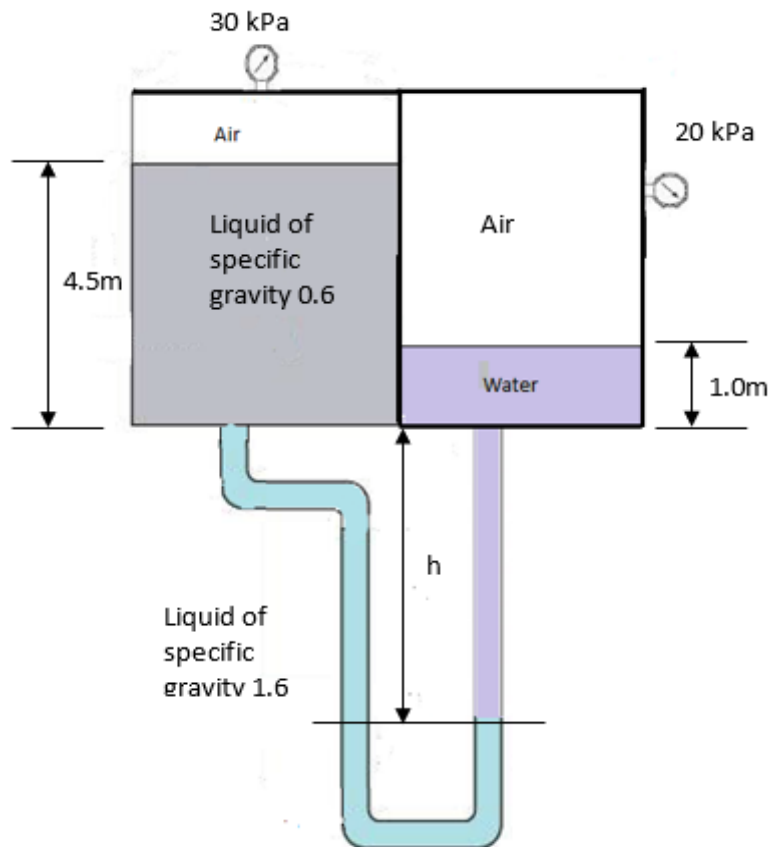

Figure 1
1. (a). A closed vessel is divided into two compartments, which contain oil and water as shown in **Figure 1**.